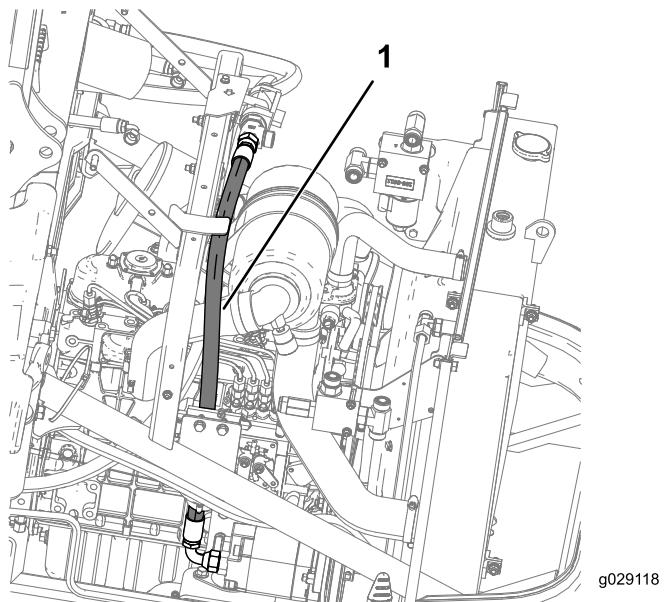

Figure 28
8. Install the hydraulic hose C from the tee fitting (5/8 x 5/8 x 3/4 inch male) on the filter-head assembly to the adapter fitting (5/8 x 3/4 inch male) on the gear-pump assembly as shown in Figure 28.